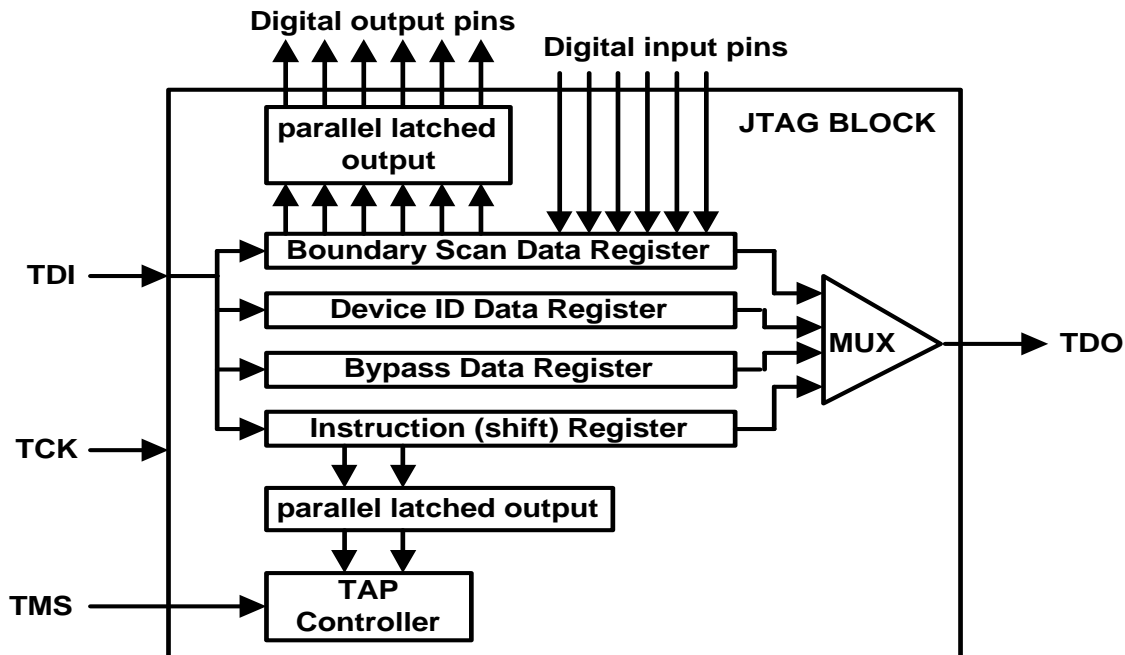

Figure 14. Test Access Port Architecture
The CS61880 supports the IEEE Boundary Scan Specification as described in the IEEE 1149.1 standards. A Test Access Port (TAP) is provided that consists of the TAP controller, the instruction register (IR), by-pass register (BPR), device ID register (IDR), the boundary scan register (BSR), and the 5 standard pins ($\overline{\text{TRST}}$, TCK, TMS, TDI, and TDO). A block diagram of the test access port is shown in Figure 14 on page 44. The test clock input (TCK) is used to sample input data on TDI, and shift output data through TDO. The TMS input is used to step the TAP controller through its various states.